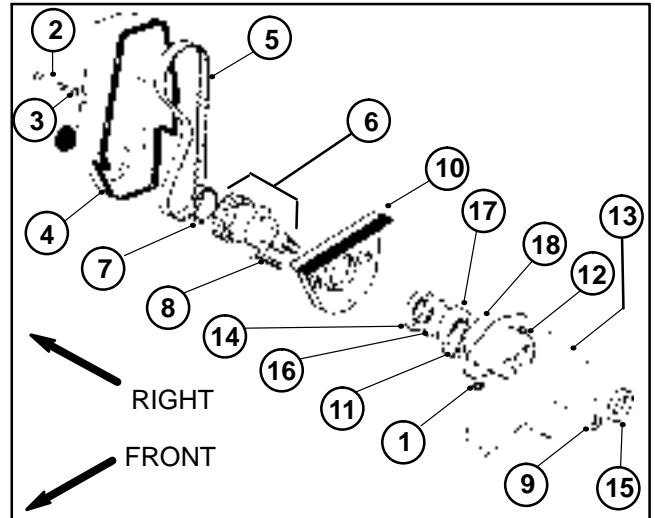
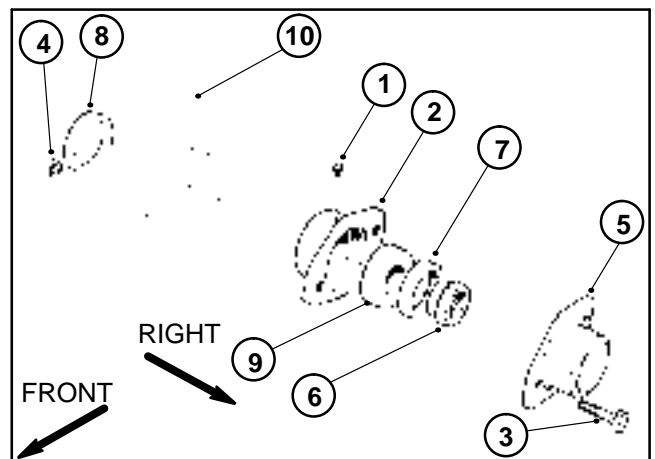

Figure 39
Figure 40
4. Remove four cap screws, four lock washers, and reel drive cover from the mower. Mark bearing housing (RH) for reassembly purposes (Fig. 39).
6. Remove the pulley and drive assembly (Fig. 39) and the bearing lock nut (Fig. 40) from the reel drive shaft as follows:
7. Use an allen wrench and remove both flat head screws, groomer arm cover, and both cover standoffs from the bearing housing (Fig. 39).
8. Remove both cap screws, lock nuts, and bearing cover from the bearing housing (LH) (Fig. 40).
9. Remove grease fittings from both bearing housings (Fig. 39 and 40).
10. Pull both bearing housings from the frame and reel (Fig. 39 and 40). Remove the reel from the mower.
A. Remove large seal, small seal, and bearing from the bearing housing (Fig. 40).
B. Remove bearing seal, retaining ring, bearing, and wave washer from the bearing housing. Discard wave washer (Fig. 39).
2. Reassemble bearing housing (LH) components (Fig. 40).
3. Reassemble bearing housing (RH) components (Fig. 39).
A. Bearing housing (RH) should be marked from disassembly.
**Note:** The two bearing housings are similar in appearance but can not be interchanged. The bearing housing (RH) was marked during disassembly.
5. Attach bearing housing (RH) through the frame onto the reel shaft (Fig. 39).
6. Attach bearing housing (LH) through the frame onto the reel shaft (Fig. 40).
7. Install the pulley and drive assembly (Fig. 39) and the bearing lock nut (Fig. 40) to the reel shaft as follows:
8. Tighten flat head screws and nuts securing the bearing housing (RH) to the frame (Fig. 39).
9. Remove both cap screws and lock nuts holding the bearing housing (LH) to the frame. Position bearing cover to housing and secure to frame with both cap screws and lock nuts (Fig. 40).
11. Reinstall reel drive cover with four lock washers and cap screws to the mower. Tighten cap screws (Fig. 39).
12. Reinstall grease fittings to both bearing housings. Lubricate both housings with No. 2 multipurpose lithium base grease (Fig. 40 and 39).